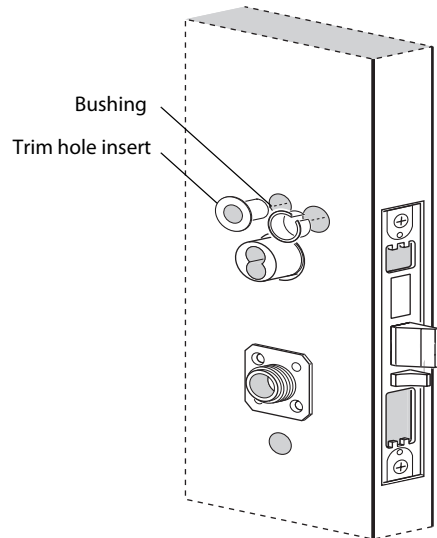

Figure 10 Installing the trim hole insert and bushing
- 1 On the outside of the door, insert the trim hole insert into the upper trim hole, as shown in Figure 10.